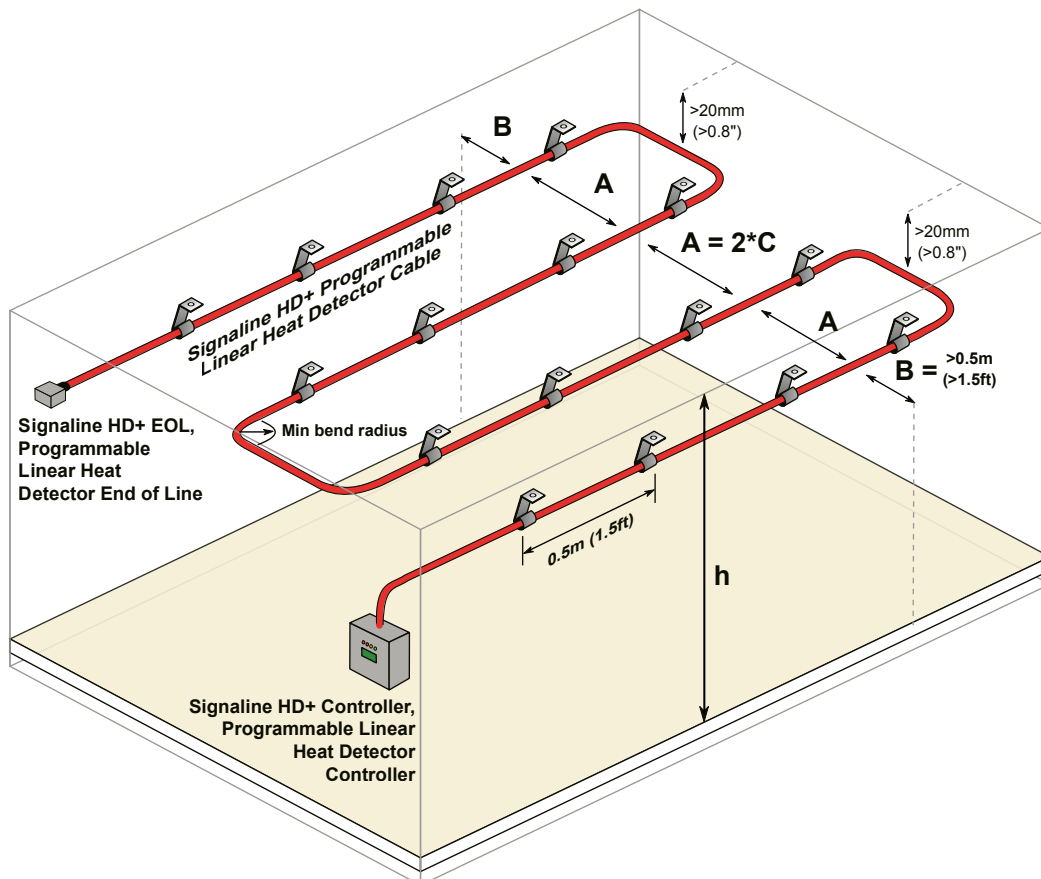

Figure 8: Area protection with the Signaline HD+ LHD System
Therefore the distance between two parallel runs of sensor cable (shown as A in Figure 8 below) must not be greater than the distance shown in Table 4. For Class A1I, the maximum ceiling height (h) is 9m (see DIN VDE 0833-2 section 6.1.5.3).
-  In any case, the sensor cable should not be mounted closer than 0.5m to any walls, equipment or stored goods (shown as B in Figure 8).